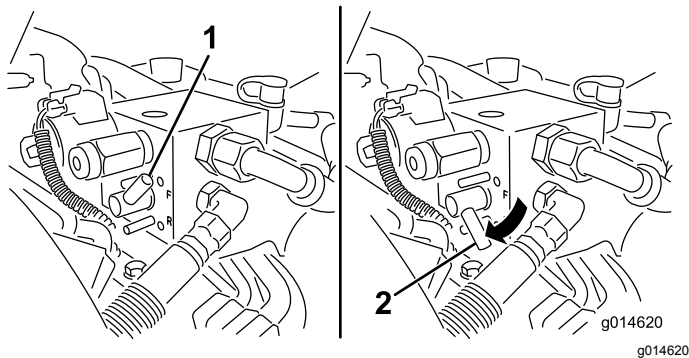

Figure 51
5. Rotate the backlap lever to the REVERSE (R) position (Figure 51).